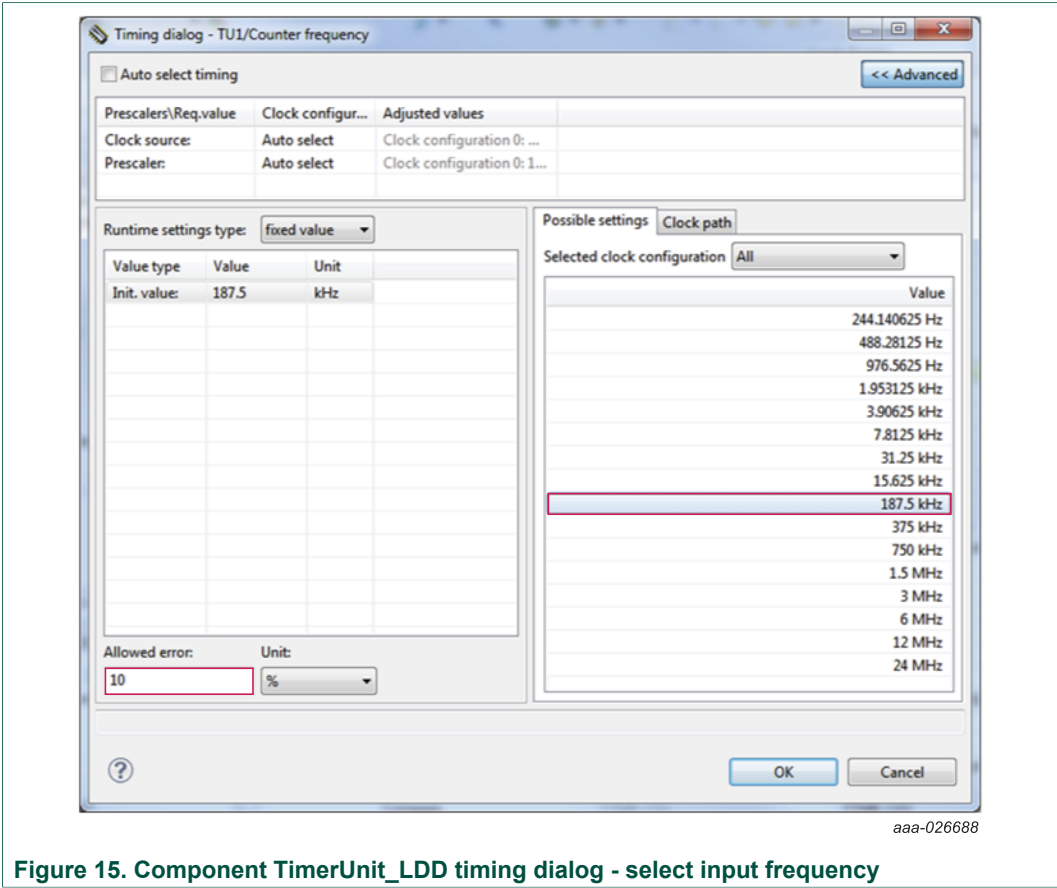

Figure 15. Component TimerUnit_LDD timing dialog - select input frequency
- d. Set the Allowed Error value at 10 % (see Figure 15).